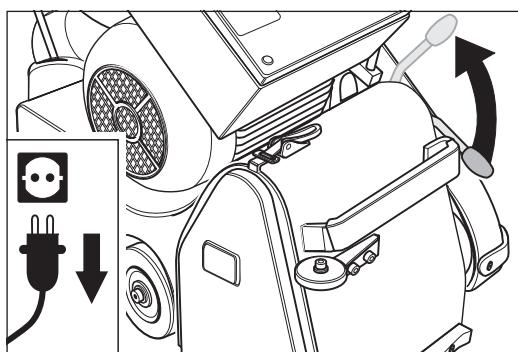

Fig. 7 Pull the operating lever of the drive unit upwards.
- 8 Pull the operating lever of the drive unit upwards to bring the tensioning roller down (Fig. 7).